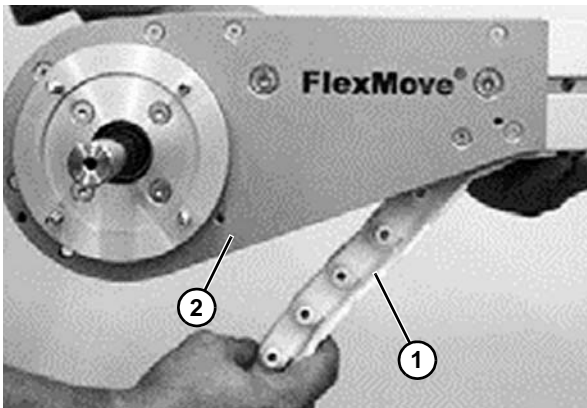
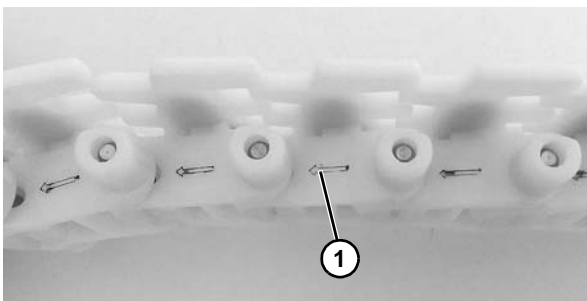

Figure 53
Figure 54
1. Insert the chain (**Figure 53, item 1**) into the underside of the drive unit (**Figure 53, item 2**). Make sure the chain will be moving in the correct direction, as indicated by the arrow (**Figure 54, item 1**) located at the side of all chain links.